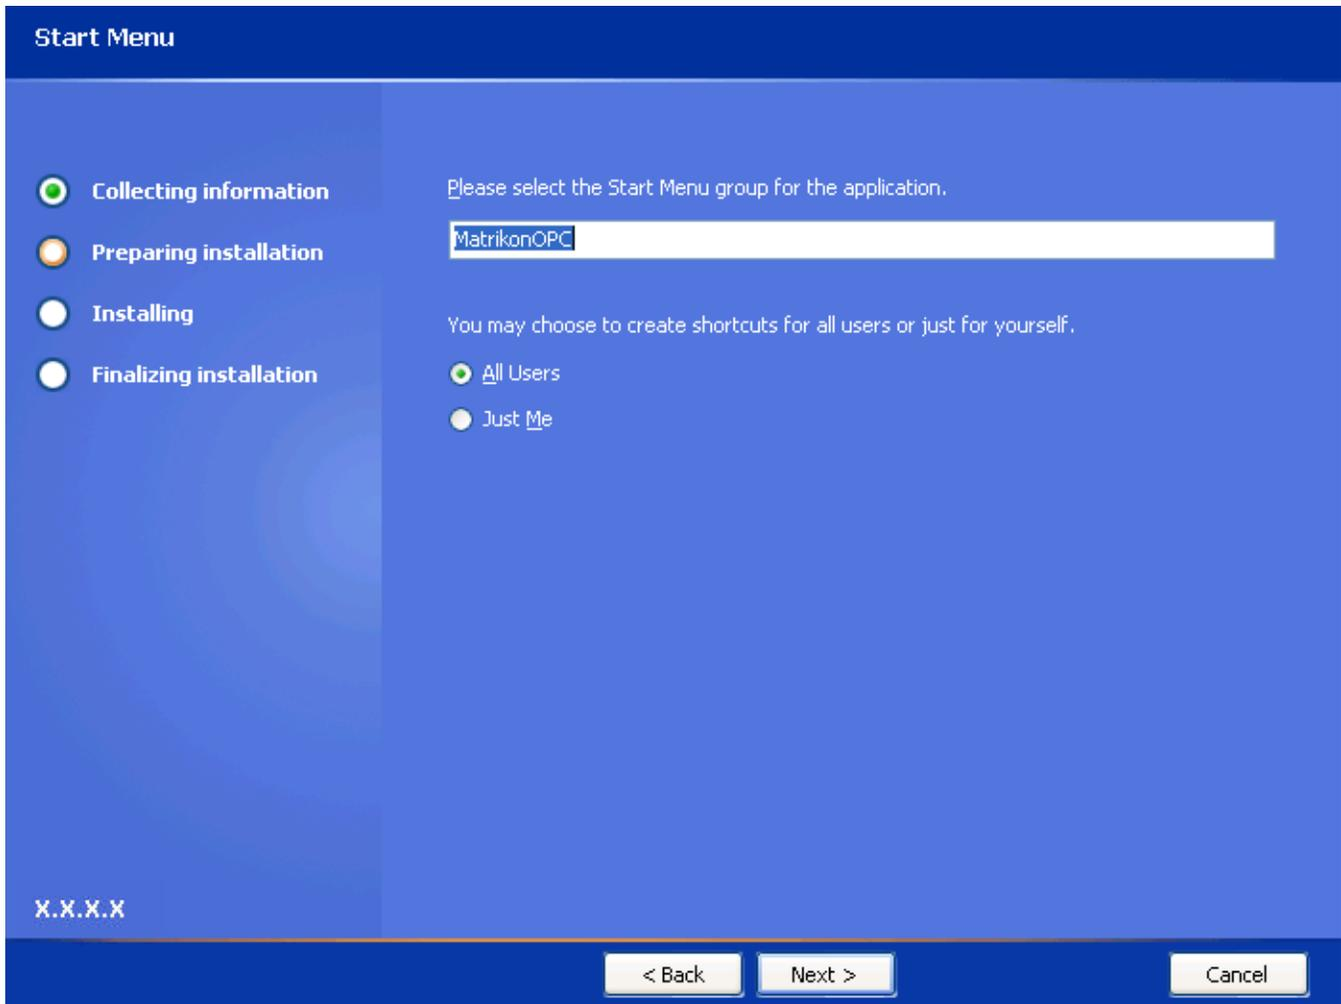

Figure 26 - Start Menu Screen
11. Click on the **Next** button. The **Start Menu** screen (Figure 26) appears.